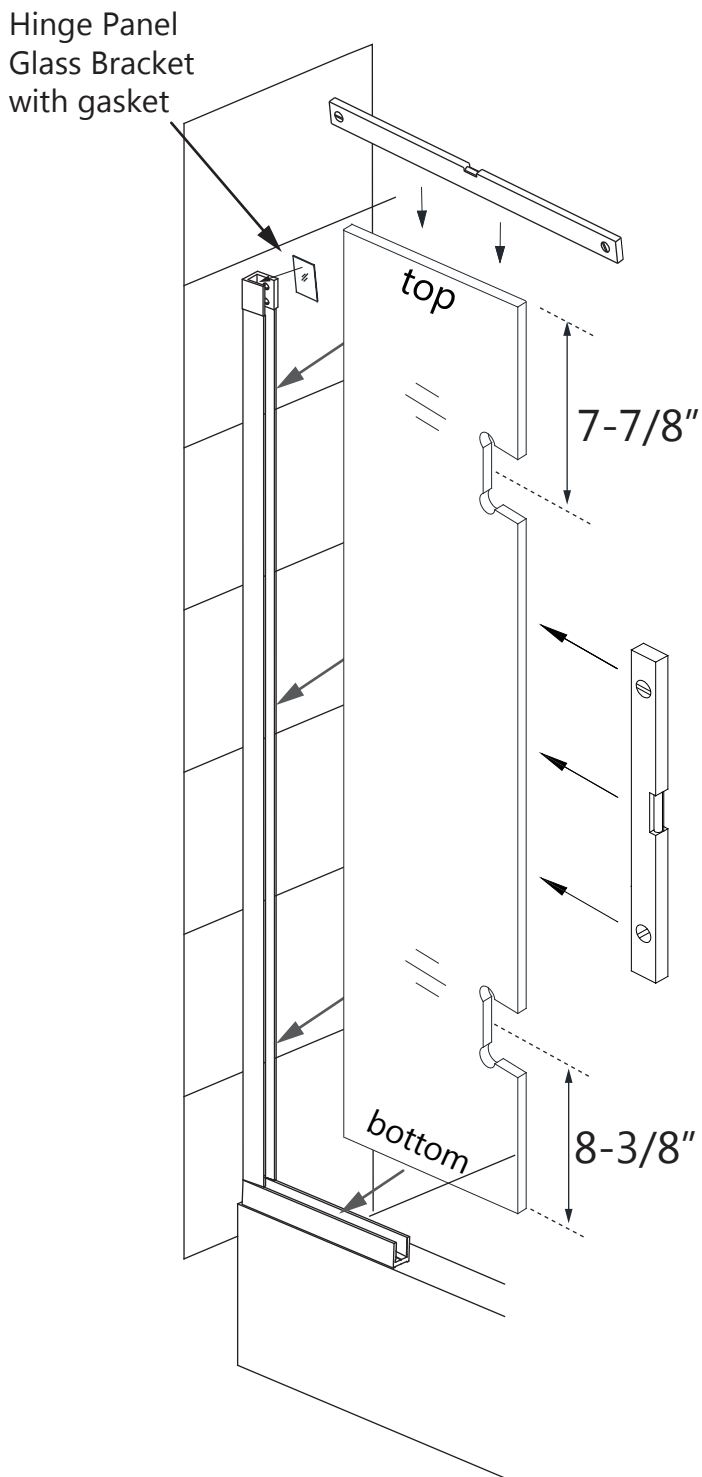

Fig 10
8. Install the Hinge Panel Glass (#32) into the U-channel, checking for level and plumb. Install the gasket into the Hinge Panel Glass Bracket. (Note: Make sure the top of the hinge panel glass is at the top). (Fig 10)